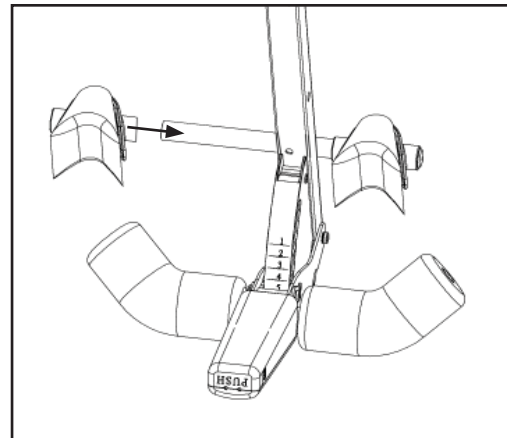

Figure 17
- Slip the other Heel Cup (rounded corners down) onto the Rear Bar and push the Rubber Plug (F5-1056) into the Rear Bar (Figure 17).